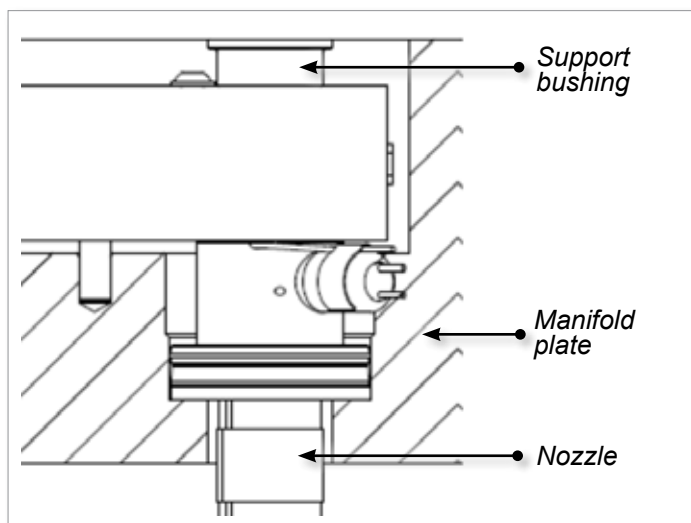

Figure 5-35 Support bushing in MasterSHIELD systems
3. Use a dowel pin to install all of the support bushings into the manifold. See Figure 5-35.